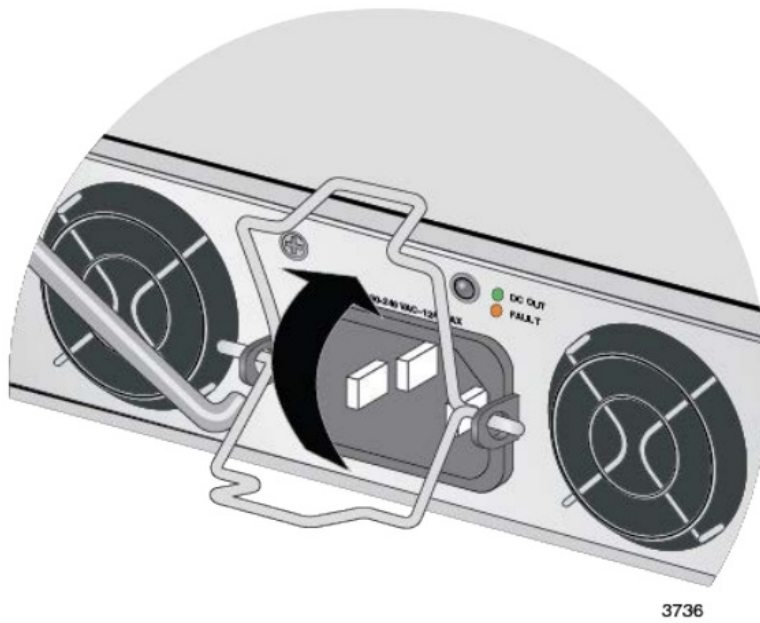

Figure 57. Raising the Power Cord Retaining Clip
1. Raise the power cord retaining clip on the power supply. Refer to Figure 57 on page 117. (The AT-PWR1200 Power Supply does not have a retaining clip.)